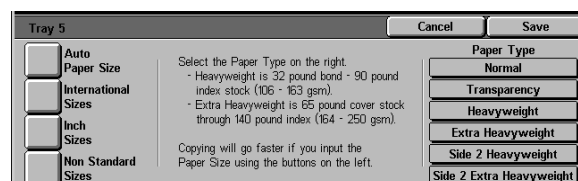

Figure 26: Tray 5 screen
- 2 Touch the **Tray 5** icon to display the Tray 5 screen, Figure 26.